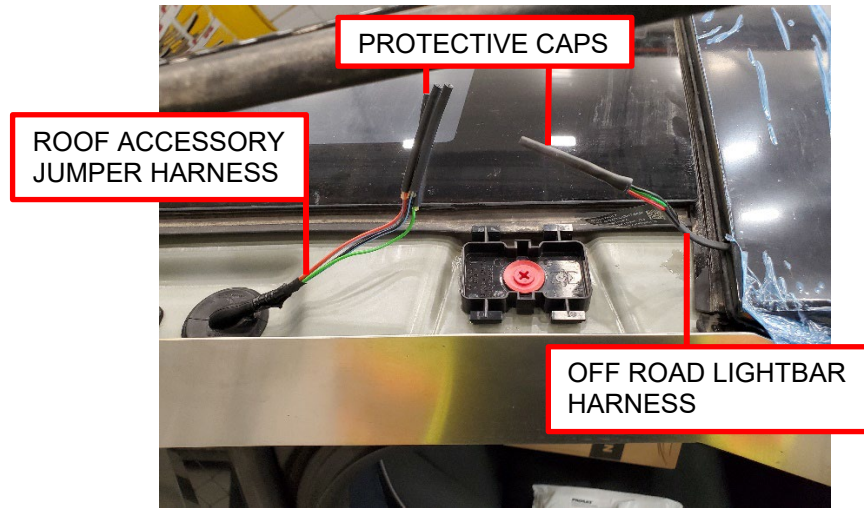

Figure 11
11. Remove and discard the protective caps (x6) from the roof accessory jumper harness wire ends (x3) and the off road lightbar harness wire ends (x3) (Figure 11).